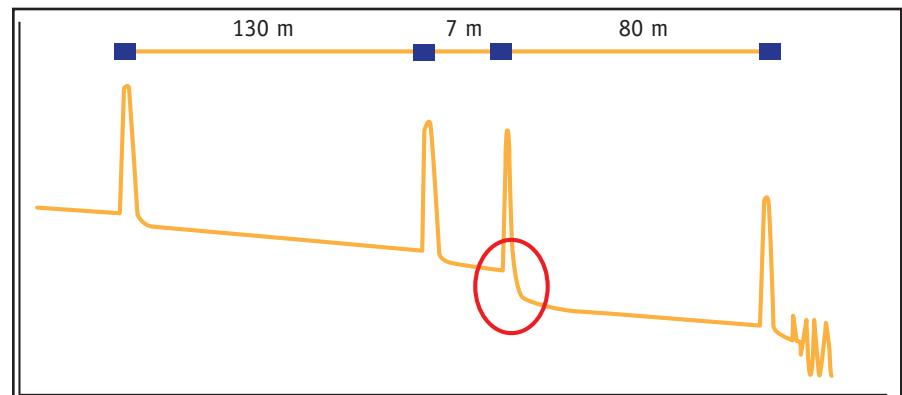

Figure 11 – Sample OTDR trace with high loss connector at 137m
- OTDR trace** – The OTDR plots the reflectance and loss over time in a graphical "trace" of the fiber. Experienced technicians can "read a trace" and explain it. For example, in figure 11, an experienced eye can spot that one side of a cross connect shows excessive loss.